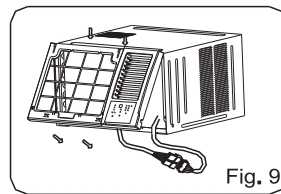

Fig. 9
1. Install the frame and connect the coupler plugs, making sure not to interfere with the temperature sensor cable (See Fig.9).